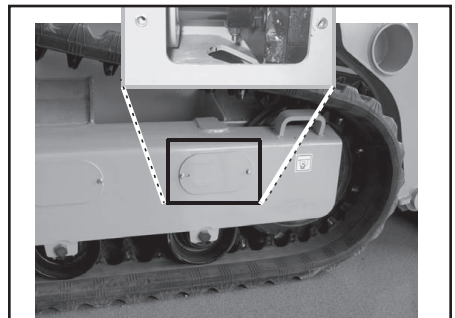

Fig. 76 - Tension Stop Cylinder
1. With the machine running and the drive system not moving, remove tension cylinder stop (K, Fig. 76) on the side on the machine with the track to be replaced.
14. Once the track tension cylinder has returned to the operating (extended) position, re-install cylinder stop (K, Fig. 76).